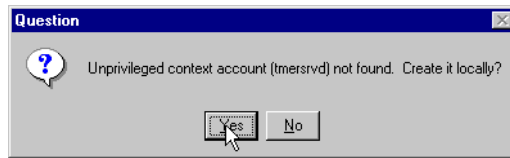

Figure 14. Creating the tmesrsvd account
4. Press **Yes** to create the *tmesrvd* account locally as shown in Figure 14 on page 44.